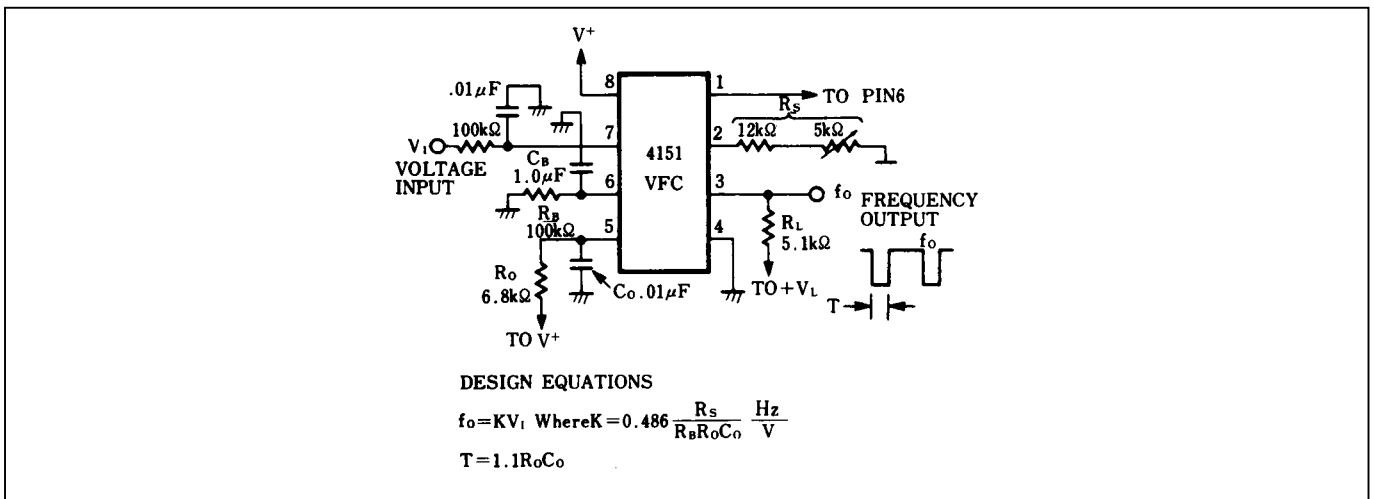
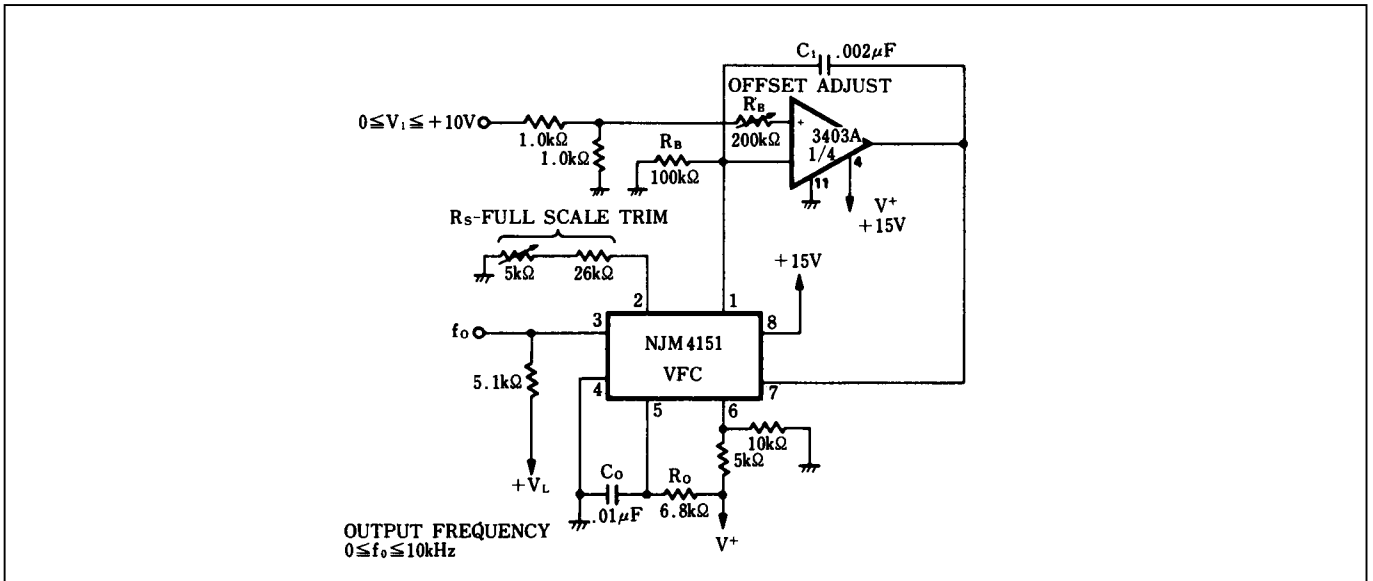

Figure 2. Single Supply Voltage-to-Frequency Converter
Figure 3. Precision Voltage-to-Frequency Converter Single Supply
Figure 2 shows the simplest type of VFC that can be made with the NJM4151. Input voltage range is from 0 to +10V, and output frequency is from 0 to 10kHz. Full scale frequency can be tuned by adjusting R_S , the output current set resistor. This circuit has the advantage of being simple and low in cost, but it suffers from inaccuracy due to a number of error sources. Linearity error is typically 1%. A frequency offset will also be introduced by the input comparator offset voltage. Also, response time for this circuit is limited by the passive integration network $R_B C_B$. For the component values shown in Figure 2, response time for a step change input from 0 to +10V will be 135msec. For applications which require fast response time and high accuracy, use the circuits of Figure 3 and 4.
For applications which require a VFC which will operate from a single positive supply with positive input voltage, the circuit of Figure 3 will give greatly improved linearity, frequency offset, and response time. Here, an active integrator using one section of the **NJM3403A** quad ground-sensing op-amp has replaced the R_B - C_B network in Figure 2. Linearity error for this circuit is due only to the NJM4151 current source output conductance. Frequency offset is due only to the op-amp input offset and can be nulled to zero by adjusting R_B . This technique uses the op-amp bias current to develop the null voltage, so an op-amp with stable bias current, like the **NJM3403A**, is required.
The operational amplifier integrator improves linearity of this circuit over that of Figure 2 by holding the output of the source, Pin 1, at a constant 0V. Therefore linearity error due to the current source output conductance is eliminated. The diode connected around the op-amp prevents the voltage at NJM4151 pin 7 from going below 0. Use a low-leakage diode here, since any leakage will degrade the accuracy. This circuit can be operated from a single positive supply if an **NJM3403A** ground-sensing op-amp is used for the integrator. In this case, the diode can be left out. Note that even though the circuit itself will operate from a single supply, the input voltage is necessarily negative. For operation above 10kHz, bypass NJM4151 pin 6 with 0.01μF.
4. Avoid stray coupling between NJM4151 pins 5 and 7, which could cause false triggering. For the circuit of Figure 2, bypass pin 7 to ground with at least $0.01\mu\text{F}$. If false triggering is experienced with the precision mode circuits, bypass pin 6 to ground with at least $0.01\mu\text{F}$. This is necessary for operation above 10kHz.
3. a) For the circuit of Figure 2 make $C_B = 10^{-2} [1 / f_0]$ Farads.
4. a) For the circuits of Figure 2 and 3 keep the values of R_B and R_B' as shown and use an input attenuator to give the desired full scale input voltage.